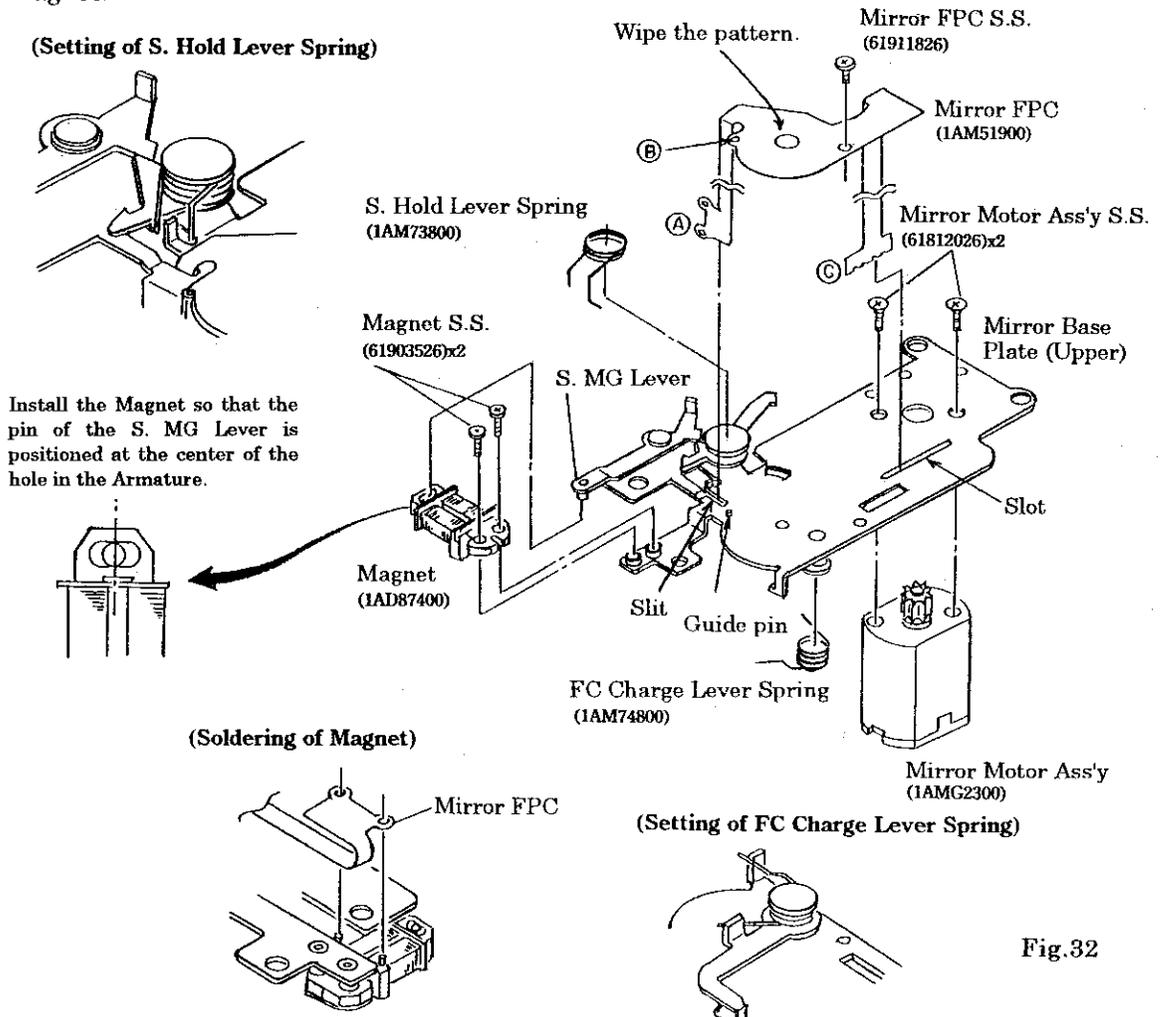

Fig.32
- 5) Pass the ③ portion of the Mirror FPC through the slot in the Mirror Base Plate (Upper) and bend the Mirror FPC.
- 6) Bend the ① portion of the Mirror FPC as shown in Fig. 32 and solder it to the terminals of the Magnet.
- 12) Wipe the contact pattern on the Mirror FPC with lens cleaning paper with ether alcohol. (See Fig. 32)
- 13) Make certain that the contacts of the Mirror Cam (2) Ass'y are free from fatigue or deformation.